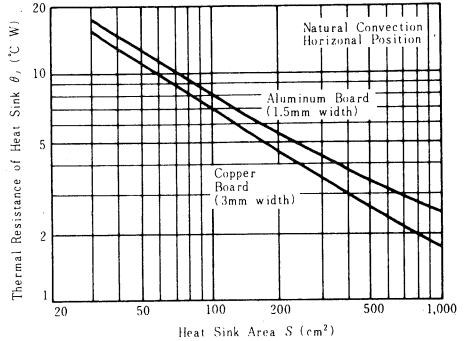

Fig.4 Areas vs Thermal Resistance of Heat Sink
you use the radiators on the market, you must select one with required thermal resistance and pay attention to mounting. If you design by yourself, you can utilize the data in Figs. 4 thru 6. (An Example of Designing a Heat Sink)
- (3) As Fig. 4 indicates, the required area of the heat sink will be 760cm^2 when copperplate of thickness; 3 mm. Then, the heat sink is placed horizontally. If this area is too large, it can be smaller by air-cooling by wind from a fan.